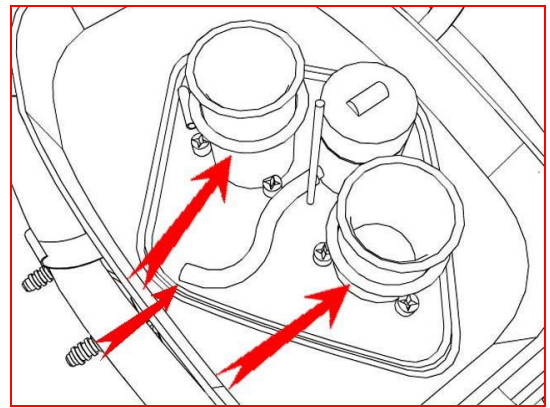

Figure 5
5. Pull the breather hose from the fitting inside the airbox. Slide the large O rings up the stacks to access the stack mounting screws. (The O rings retain the screws should they become loose.) Remove the 6 screws and the velocity stacks. (see figure 5)